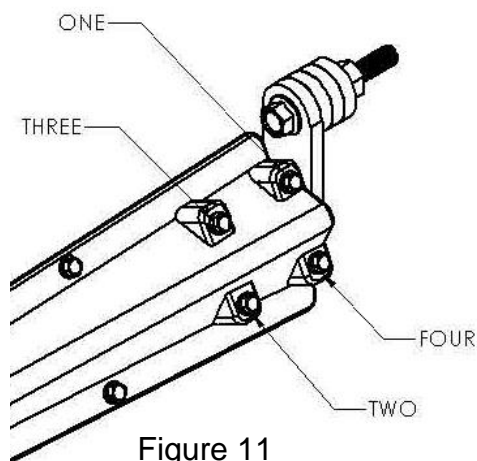

Figure 11
**TIP: Do not completely tighten one side of the backing block before moving to the other side. Alternate tightening bolts as pictured in Figure 11. Make sure to only tighten halfway and then repeat the pattern in Figure 11 until backing block is tight.**